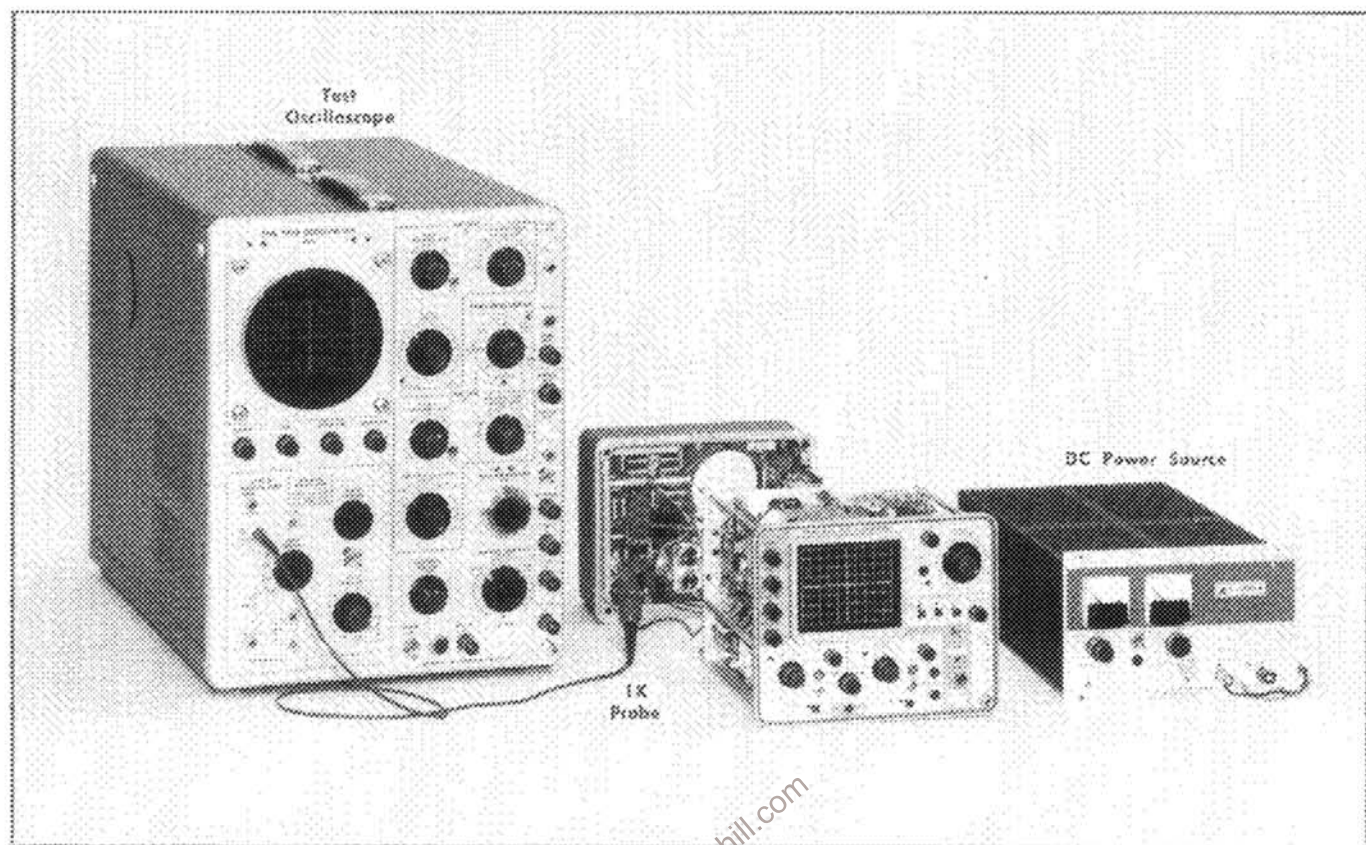

Fig. 6-3. Test equipment setup for Blocking Oscillator frequency adjustment.
- a. Test equipment setup is shown in Fig. 6-3.